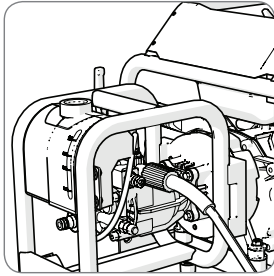

Fig 3
- Push the hose into the relevant port. **(Fig. 3)**